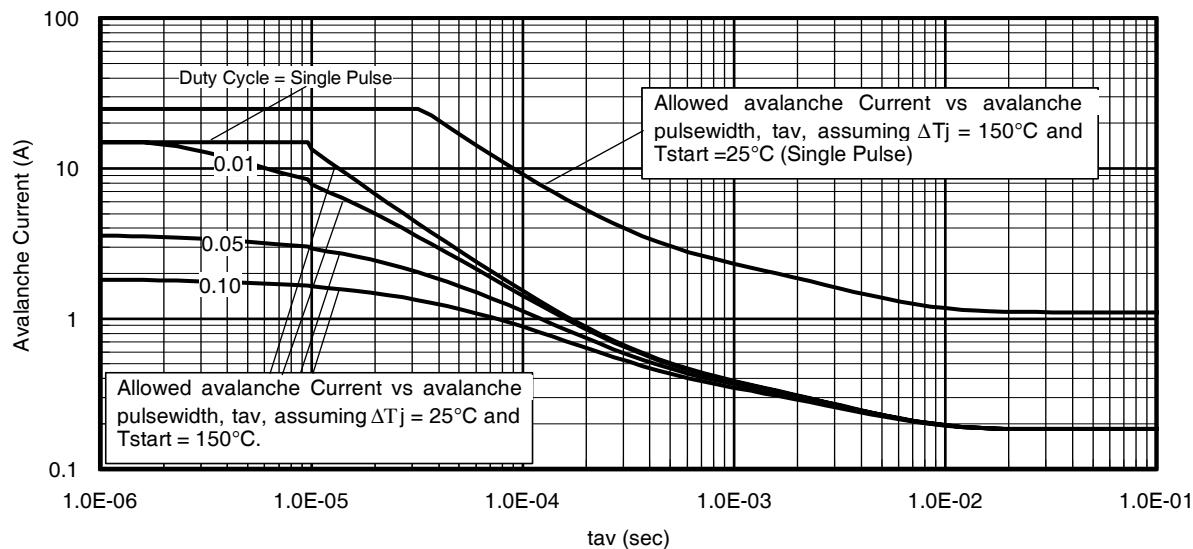

Fig 14. Typical Avalanche Current vs.Pulsewidth
| I _{AR} | Avalanche Current ① | See Fig. 14, 15, 22a, 22b, | A |
Notes on Repetitive Avalanche Curves , Figures 14, 15:
7. ΔT = Allowable rise in junction temperature, not to exceed T_{jmax} (assumed as $25^{\circ}C$ in Figure 14, 15).